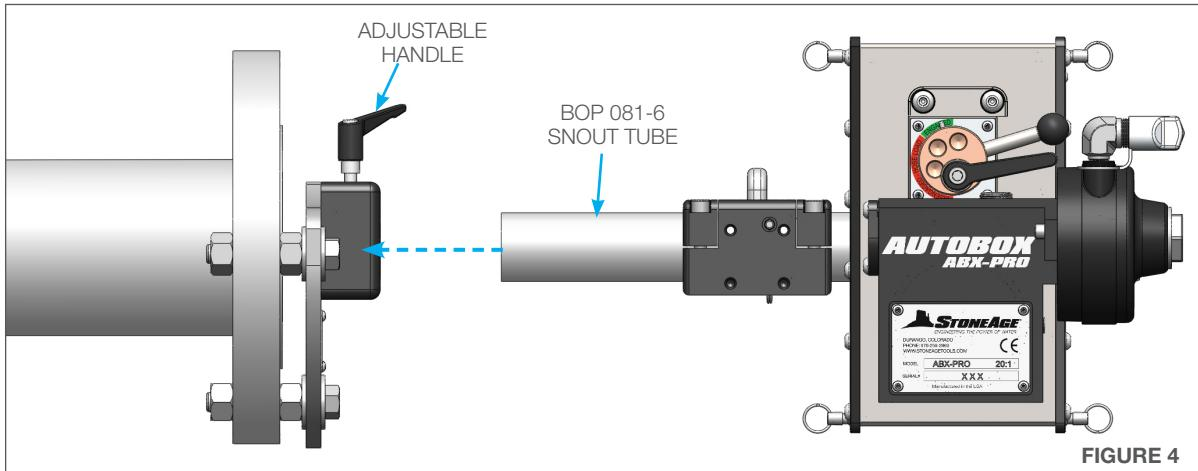

FIGURE 4
4. Loosen the adjustable handle on the Hinge Clamp. Slide the Snout Tube into the Quarter Plate Flange Mount. Tighten the adjustable handle to secure. (**Figure 4**)